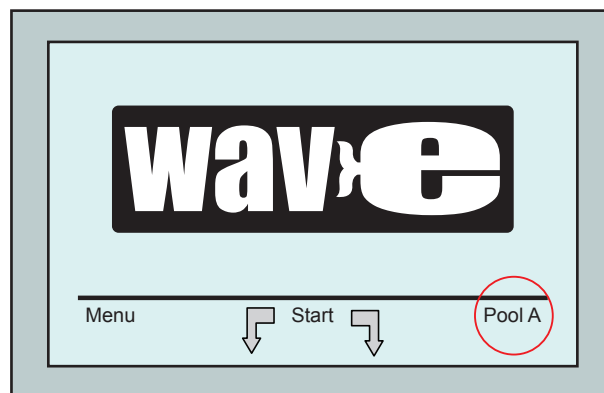

Figure 8: *Wave* screen showing Pool A as default setting
3. Switch on the power supply. The MMI's Wave screen (figure 8) opens in the home window.
1. Go to the *Wave* screen. "Pool A" is displayed as the currently defined setting as shown in Figure 8.
1. From the *Wave* screen, press the currently displayed pool setting at the right side of the screen (see Figure 8) to open the *Pool Profile* screen.